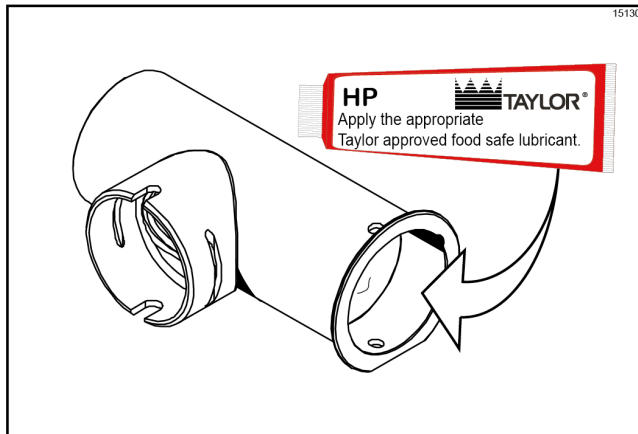

Figure-145
3. Apply a thin layer of lubricant to the inside of the pump cylinder at the retaining pin hole end. (See Figure-145.)